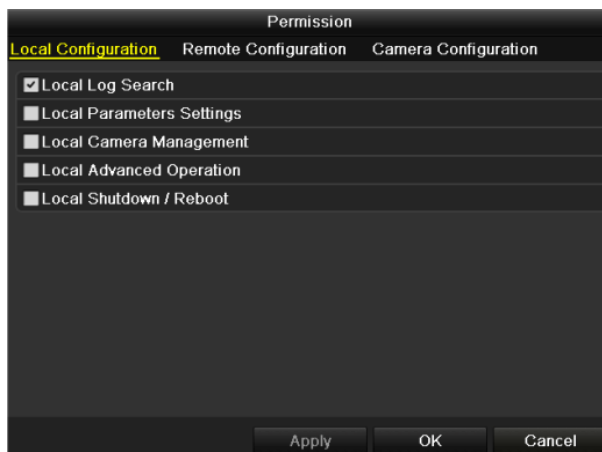

Figure 13.8 User Permission Settings Interface
5. Select the user from the list and then click the  button to enter the Permission settings interface, as shown in Figure 13.8.